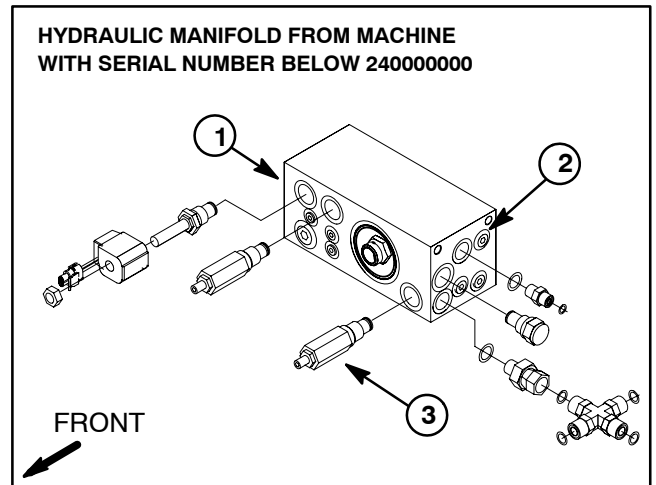

Figure 14
4. Locate and remove plug from the P2 port on the hydraulic control manifold (Figs. 14 and 15).